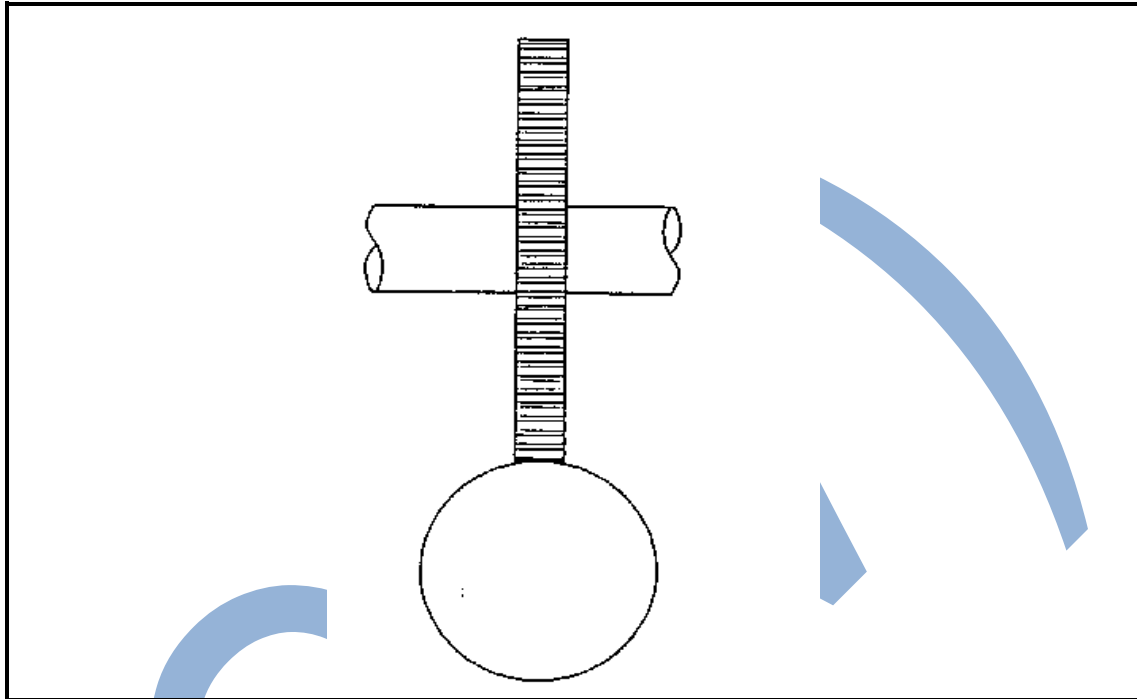

FIGURE 2
4.4 The drawing in FIGURE 2 below specifies that a 12 mm keyway must be cut on the top of a shaft, 60 mm in diameter.
- 4.4.2 Name the type of cutter shown in FIGURE 2. (1)